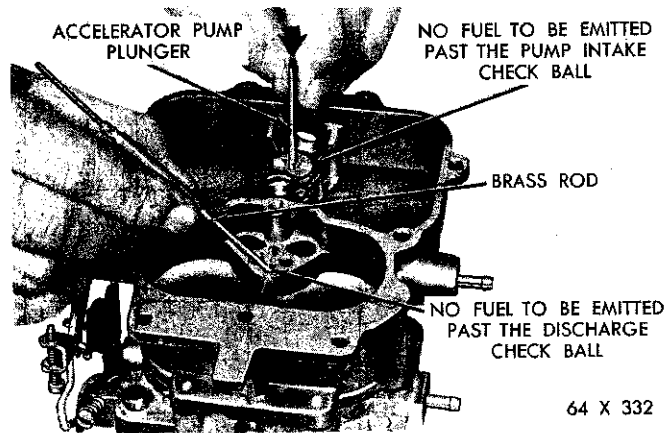

Fig. 6—Testing the Accelerator Pump Intake and Discharge Check Balls
(4) Using a small clean brass rod, hold the discharge check ball down firmly on its seat. Again raise the plunger and press downward. No fuel should be emitted from either the intake or discharge passage, as shown in Figure 6.